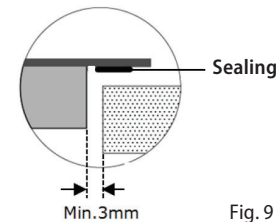

Fig. 9
- The bottom of the hob base is fitted with a sealant to prevent it from moisture and leakage of liquids. After installation the space between the edge of the hob and the worktops should be min. 3 mm (Fig. 9).